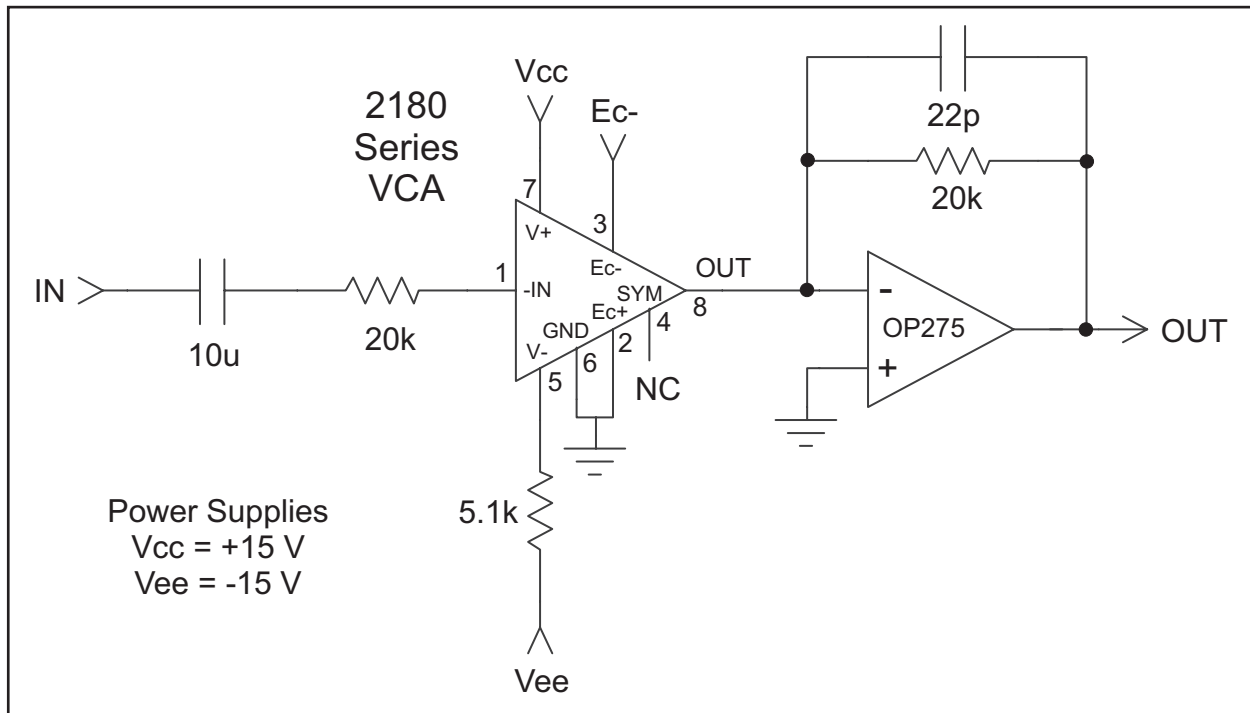
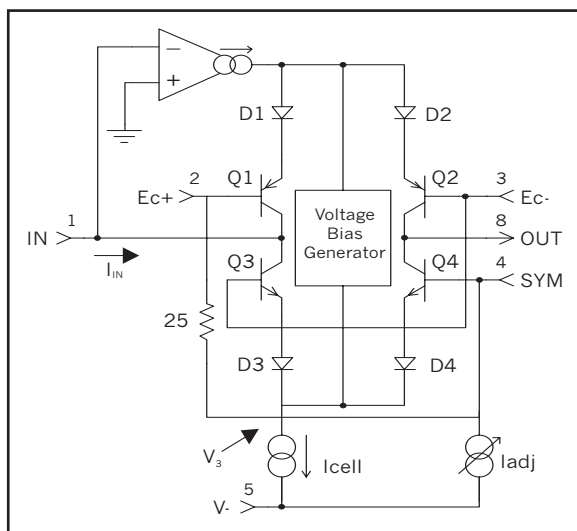
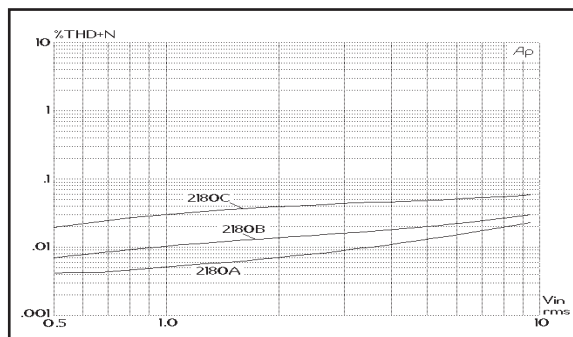
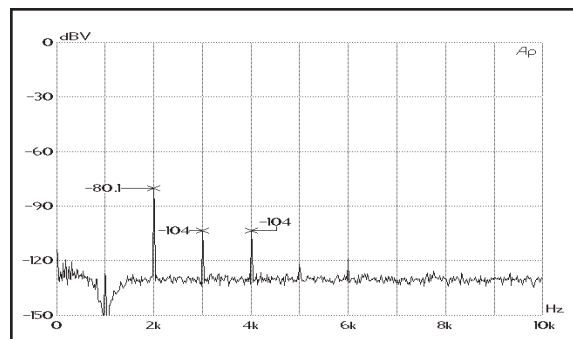

Figure 2. Typical Application Circuit
Figure 5. Simplified Internal Circuit Diagram
Figure 10. 1 kHz THD+Noise Vs. Input Level, 0 dB Gain
Figure 13. FFT of THD, 0dB gain, 1kHz, 0dBV, Typical 2180B
2. Unless otherwise noted, TA = 25°C, VCC = +15V, VEE = -15V. Test circuit is as shown in Figure 2.
Figure 5 presents a considerably simplified internal circuit diagram of the IC. The ac input signal current flows in pin1, the input pin. An internal operational transconductance amplifier (OTA) works to maintain pin 1 at a virtual ground potential by driving the emitters of Q1 and (through the Voltage Bias Generator) Q3. Q3/D3 and Q1/D1 act to log the input current, producing a voltage, V3, which represents the bipolar logarithm of the input current. (The voltage at the junction of D1 and D2 is the same as V3, but shifted by four forward  $V_{be}$  drops.)
The 2180 current consumption is determined by the resistor between pin 5 (V-) and the negative supply voltage ( $V_{EE}$ ). Typically, with 15V supplies, the resistor is 5.1 k $\Omega$ , which provides approximately 2.4 mA. This current is split into two paths: 570  $\mu$ A is used for biasing the IC, and the remainder becomes  $I_{cell}$  as shown in Figure 5.  $I_{cell}$  is further split in two parts: about 20  $\mu$ A biases the core transistors (Q1 through Q4), the rest is available for input and output signal current
recommended. In particular, the 2180 maintains low distortion over a wide range of gain, cut and signal levels. Figures 10 through 12 show typical distortion performance for representative samples of each grade of the part. Figure 13 shows the harmonic content of the distortion in a typical B-grade part.
The Input pin (pin 1) is a virtual ground with negative feedback provided internally (see Figure 5, Page 4). The input resistor (shown as 20 k $\Omega$  in Figure 2, Page 3) should be scaled to convert the available ac input voltage to a current within the linear range of the device. Generally, peak input currents should be kept under 1 mA for best distortion performance.
Figures 10 through 12 show distortion vs. Signal level for the three parts in the 2180 Series for 0 dB, +15 dB and -15 dB gain. The circuit of Figure 2, Page 3 was used to generate these curves.
A designer may trade off noise for distortion by decreasing the 20 k $\Omega$  current-to-voltage converting resistors used at the input and output in Figure 2, Page 3. For every dB these resistor values are decreased, the voltage noise at the output of the OP275 is reduced by one dB. For example, with 10 k $\Omega$  resistors, the output noise floor drops to -104 dBV (typical) at 0 dB gain — a 6 dB reduction in noise because 10 k $\Omega$  is 1/2 of (6 dB lower than) 20 k $\Omega$ .
The Output pin (pin 8) is intended to be connected to a virtual ground node, so that current flowing in it may be converted to a voltage (see Figures 2 & 14). Choose the external opamp for good audio performance. The feedback resistor should be chosen based on the desired current-to-voltage conversion constant. Since the input resistor determines the voltage-to-current conversion at the input, the familiar ratio of  $R_f/R_i$  for an inverting opamp will determine the overall voltage gain when the 2180 is set for 0 dB current gain. Since the VCA performs best at settings near unity gain, use the input and feedback resistors to provide design-center gain or loss, if necessary.